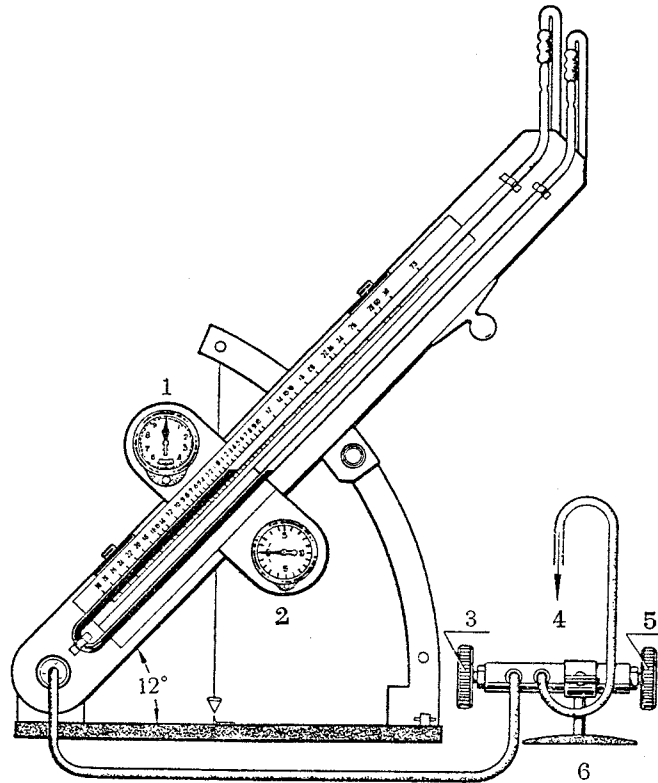

Fig. 3-7 Connection Diagram for Checking Rate-of-Climb Indicator Performance
(1) Check the instrument case for air tightness. Connect the rate-of-climb indicator, water column pressure gauge and vacuum air source. Open the air source cock slowly to make the water column pressure gauge indicate 700 mm, close the air source cock, the water column dropping should not exceed 3mm within one minute.
(2) Check the basic error.
A. Connect the test set well as shown in Fig. 3-7, adjust the inclining alcohol pressure gauge to the fixing point of 12° of the arc support. Then regulate the graduated ruler and make the liquid surface align with zero of the inspected scale.